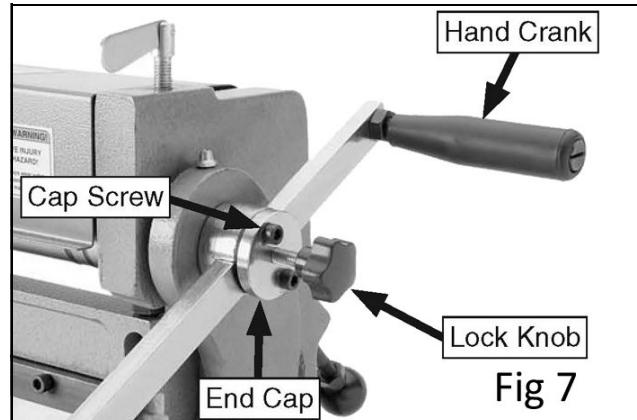

Fig 7
1. Remove one of the cap screws on the hand crank hub, rotate the end cap out of the way, then insert the hand crank into the slot (see Figure 7).